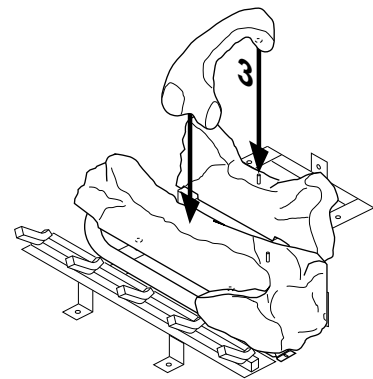

Figure 52 - Installing Log No. 3
3. Place log #3 (“C”-shaped crossover log) onto the rear and front logs. Make sure it is seated properly on the smooth surface on the front log and on the pin on the back log as shown in Figure 52.